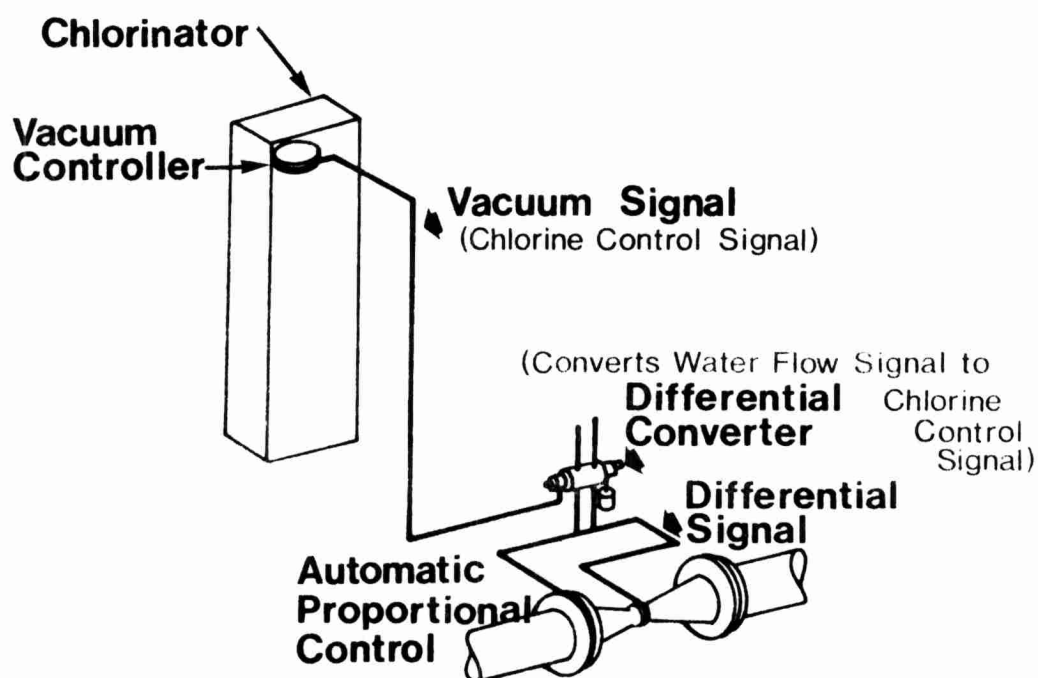

Fig.3-2 Open Loop Control Chlorination
2. FLOW PROPORTIONAL OR OPEN LOOP CONTROL (see Figs. 3-2, 3-3)